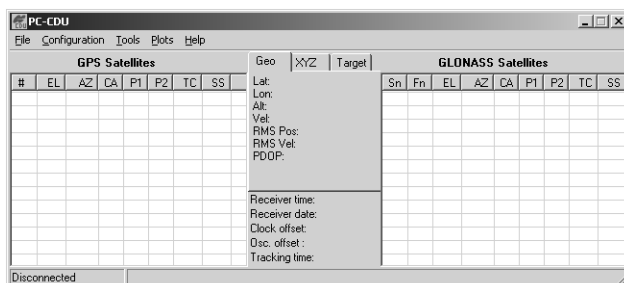

Figure 3-3. PC-CDU Main Screen
2. Once the receiver and a computer are connected, start PC-CDU on the computer. The PC-CDU main screen displays (Figure 3-3).